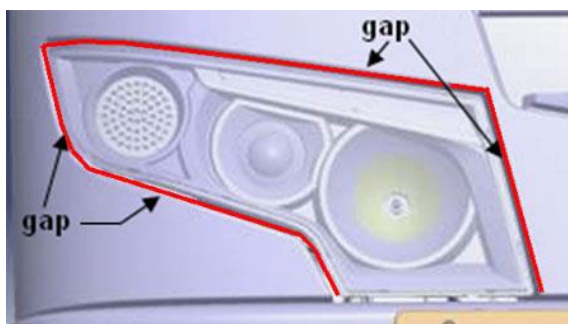

FIGURE 14
13. The gap shown in red on Figure 14 should be 5 ± 2 mm.